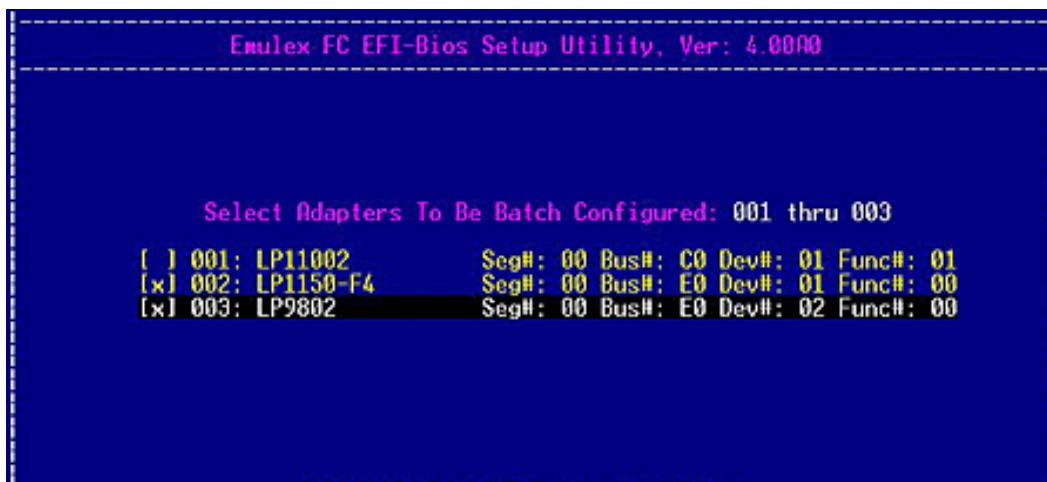

Figure 6-35 Select Adapters to be Batch Configured Listing Screen
3. Use the up and down arrows on your keyboard to select the source adapter for the configuration and press **<Enter>**. A menu of all adapters in your system, except the source adapter, is displayed (Figure 6-35).
3. Enter the directory path and file name and press **<Enter>**. A list of the adapters in the system is displayed (Figure 6-35).